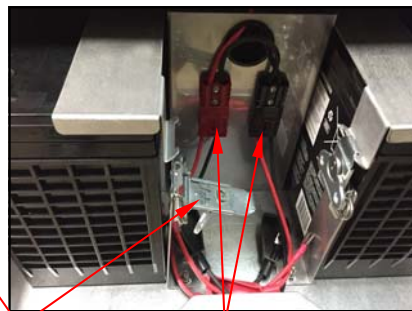

Figure 3
- 5) Unplug both Anderson Connectors (Fig. 3) before removing the batteries. Do not pull wires. Pull down on the plastic housing to disconnect the batteries.
- 6) Choose one battery to remove first. On the battery latch, flip the turnkey up so that it is horizontal and turn it counter clockwise until the latch released from the lip (Fig. 3). Let the latch fold down and away from the battery.